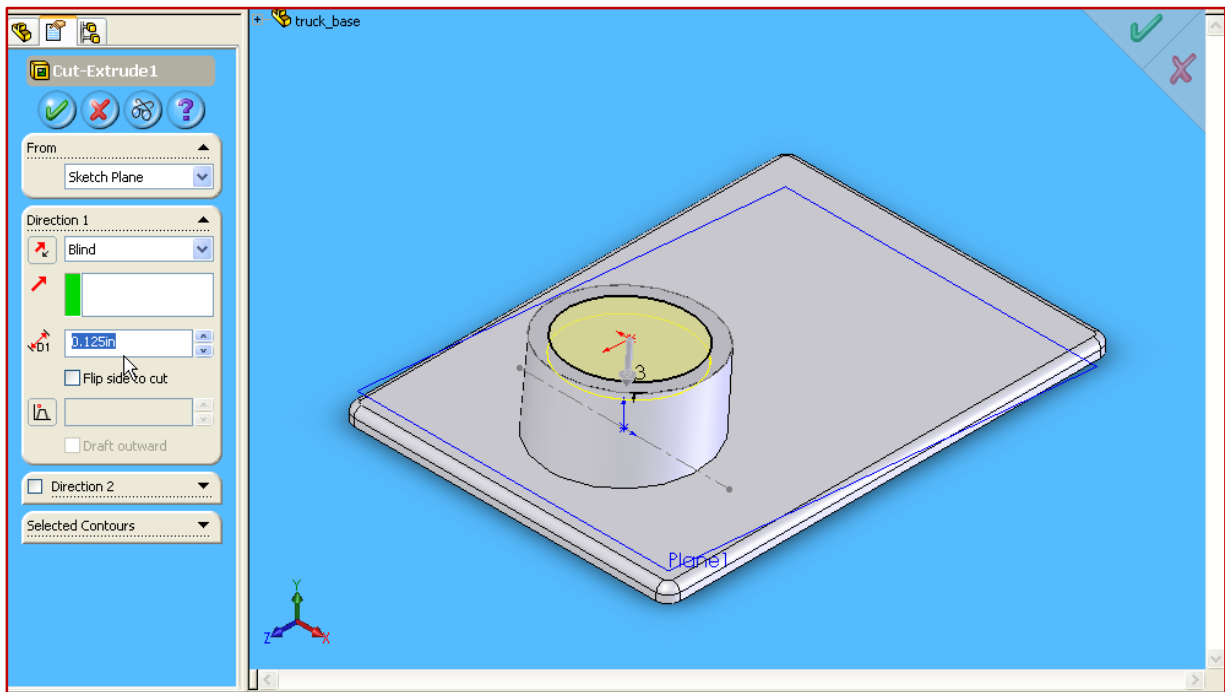

Figure 8.6 – Extruded Cut Pocket
- ✓ Click **Extruded Cut** in the **Features** toolbar of the **CommandManager**. See Figure 8.6. The depth of the pocket is 0.125 inch.